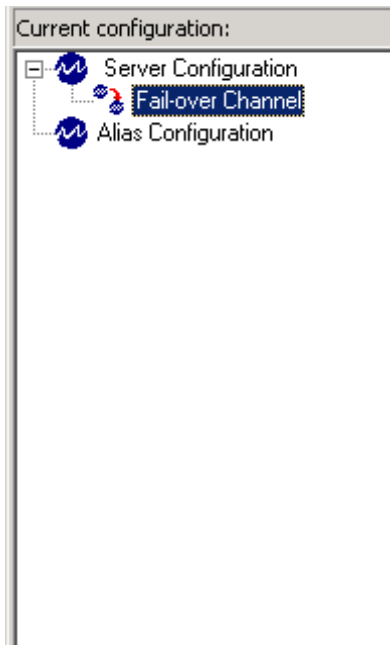

Figure 13 - New Fail-over Channel Object
8. Click on the **OK** button. The object is created and appears as a child of the **SCADA Modbus** configuration item as shown in Figure 13.